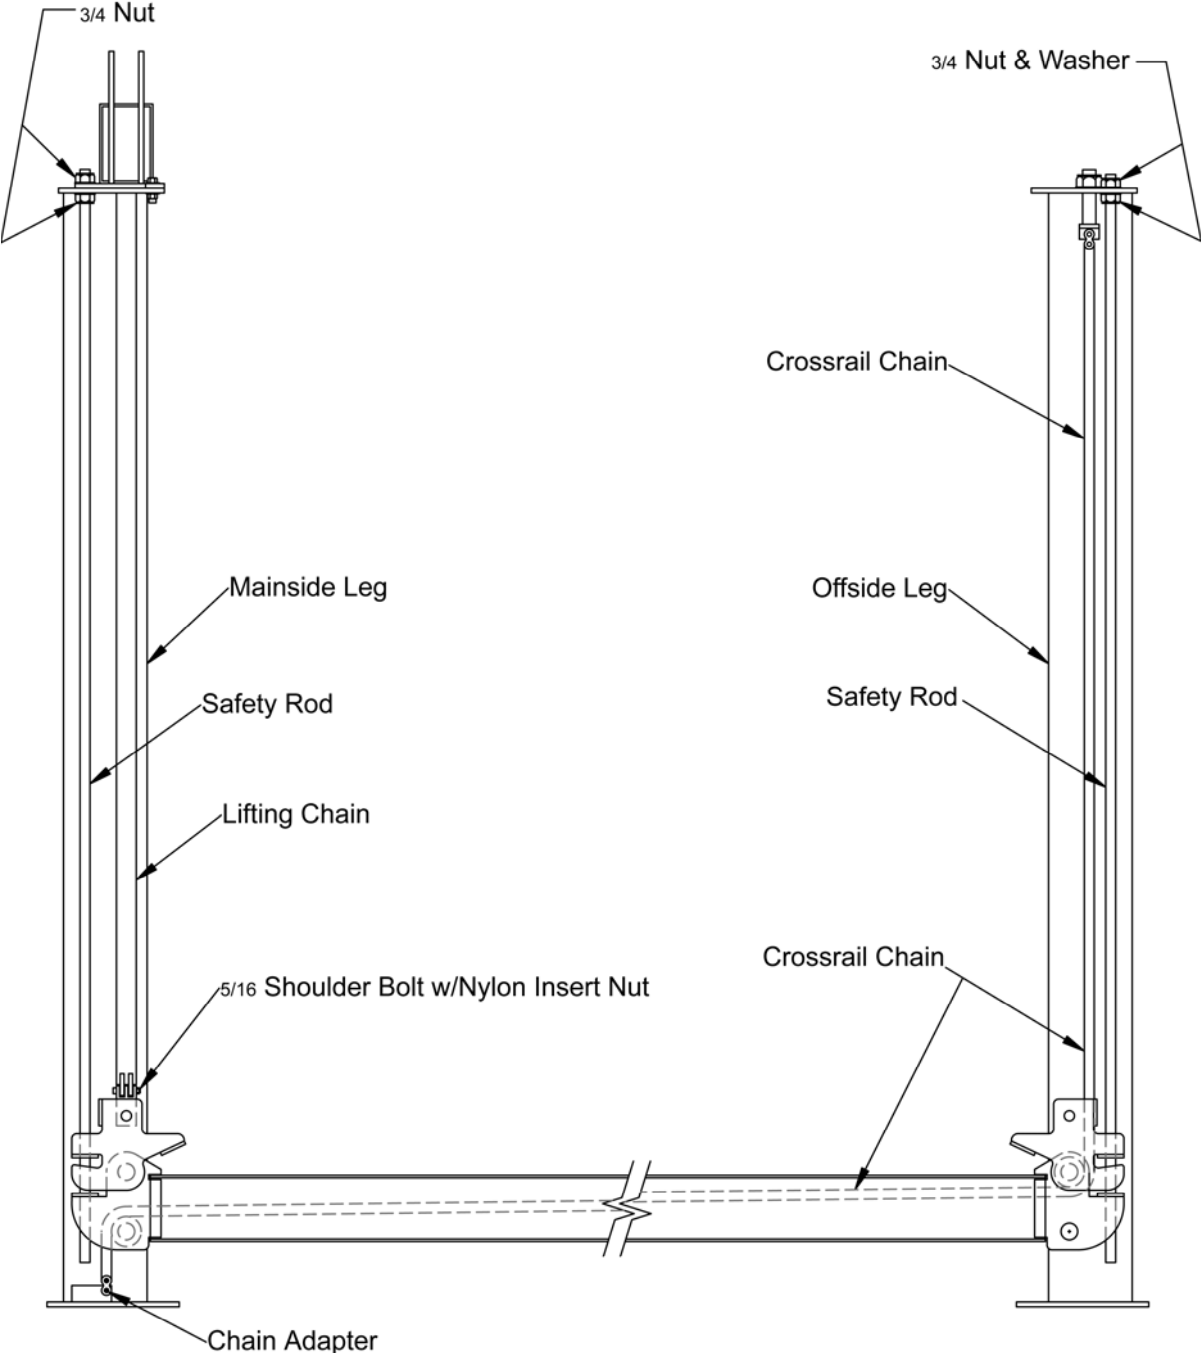

Figure 7
10. Use the pull wire to pull the crossrail chain through the crossrail tube. The chain runs over the roller at the mainside end and under the roller at the offside end. Assemble the chain anchor stud to the cross rail chain at this time using a master link. Do not assemble the chain anchor stud to the top plate of the offside legs at this time. See Figure 7. Repeat for the other crossrail.